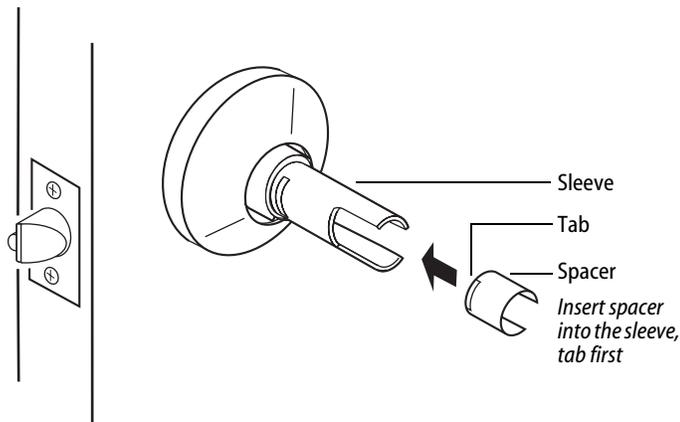

Figure 2 Inserting the spacer into the lever sleeve
- 3 Insert the spacer, tab first, into the sleeve as shown in Figure 2.